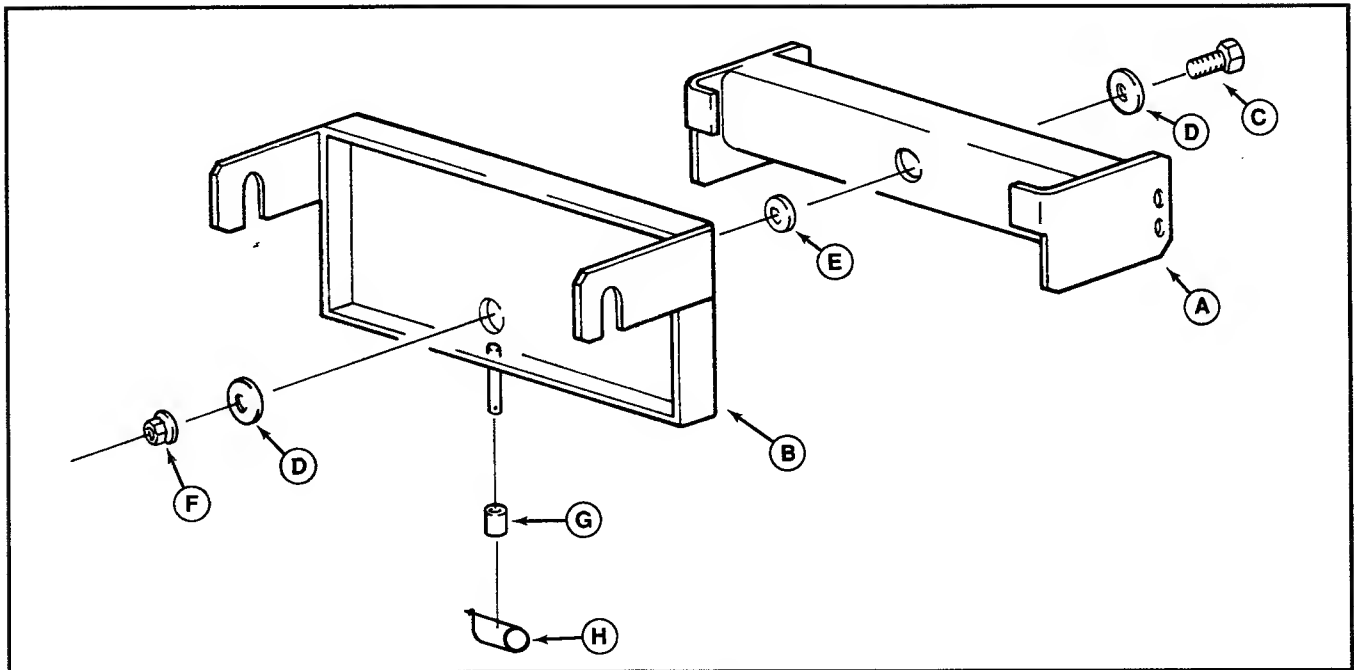

Figure 6
Sort out the hardware and hitch parts. Refer to figures 6 and 7.
Assemble the hitch pivot plate (A, figure 6) to the hitch support plate (B).